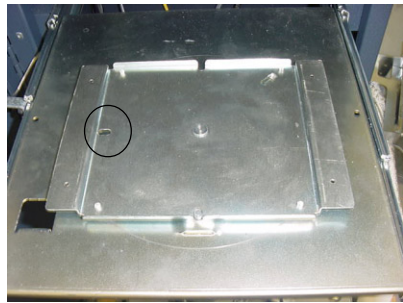

Figure 3. Turntable in cassette service position. Note that plate hole is to the left.
4. Pull the dispenser tray out to its fully extended position. (If you have a fixed tray, install it on the four screw studs at this time) Check the position of the turntable. The turntable must be in the cassette service position to correctly install the dispensing mechanism. (Figure 3)